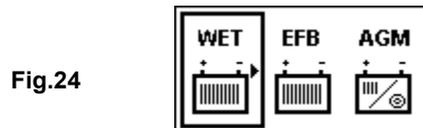

Fig.24
- Press  the screen will show as Fig.24 below: